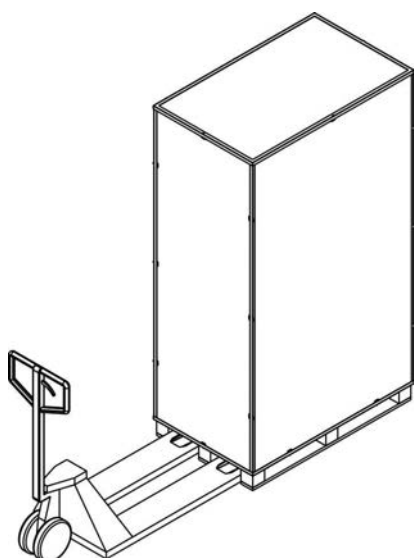

Figure 2-1
- 1 - Use a forklift to move the product to the installation area. Refer to Figure 2-1. Please make sure the bearing capacity of the forklift is sufficient.